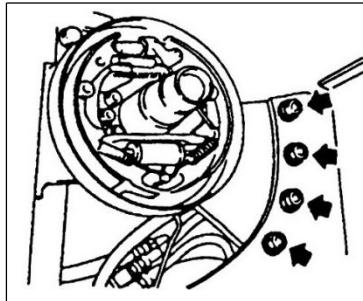

Fig.1-2
- (6) Disconnect brake cable at hand brake lever.
- (7) Remove front wheels.
- (8) Remove axle shaft.
- (9) Support driving axle with wire ropes and lifting device.
- (10) Remove bolts securing axle mounting bracket to frame. (see fig.1-2) .